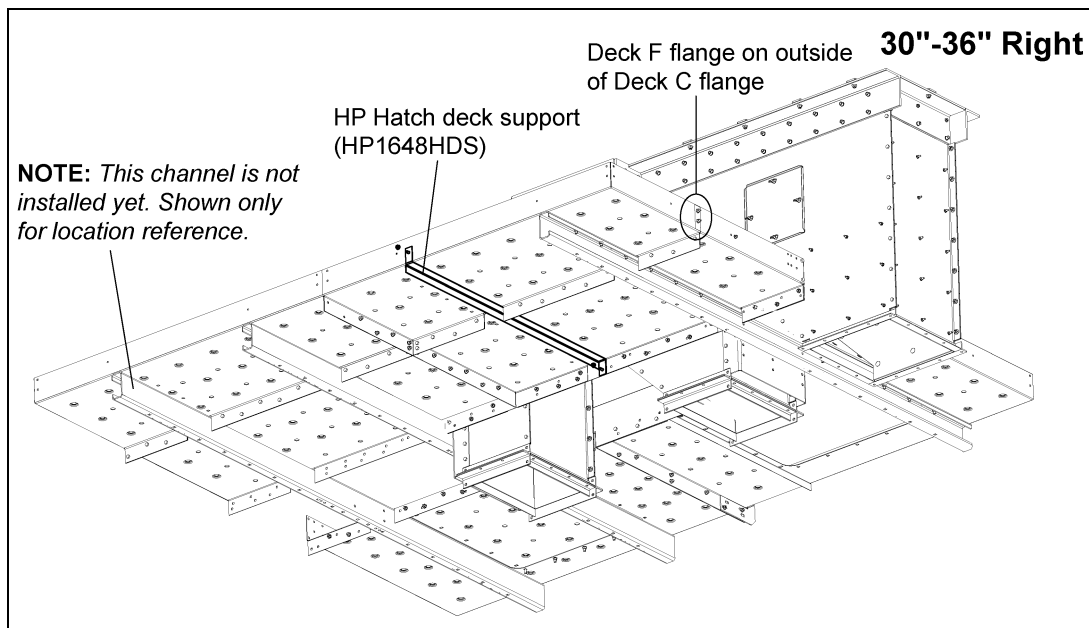

Figure 8N
5. Orient Deck F flange outside of Deck C flange. *(See Figure 8N on Page 57.)*
7. Install the head platform hatch deck support (HP1648HDS) under Deck C and Deck F using 3/8" x 3/4" bolt (S-7105) and nut. (See Figure 8N.) **NOTE:** You may need to remove a bolt from the toe board if one was installed in this location.